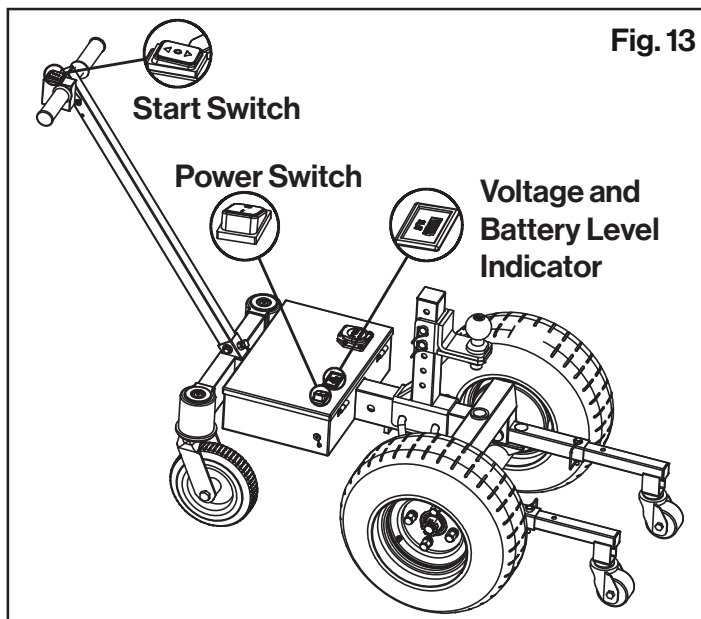

Fig. 14
- Pry open the snaps on both sides of the start switch (Step 1) to remove the switch, and disconnect all terminals (Step 2). **(See Fig.14)**